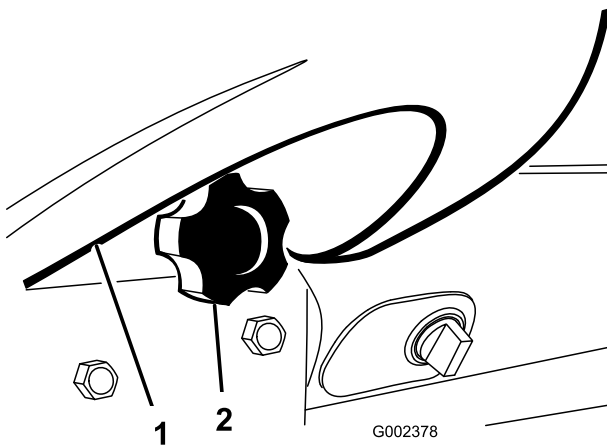

Figure 18
2. Loosen knob securing cup holder to dash (Figure 18). Remove cup holder from dash.